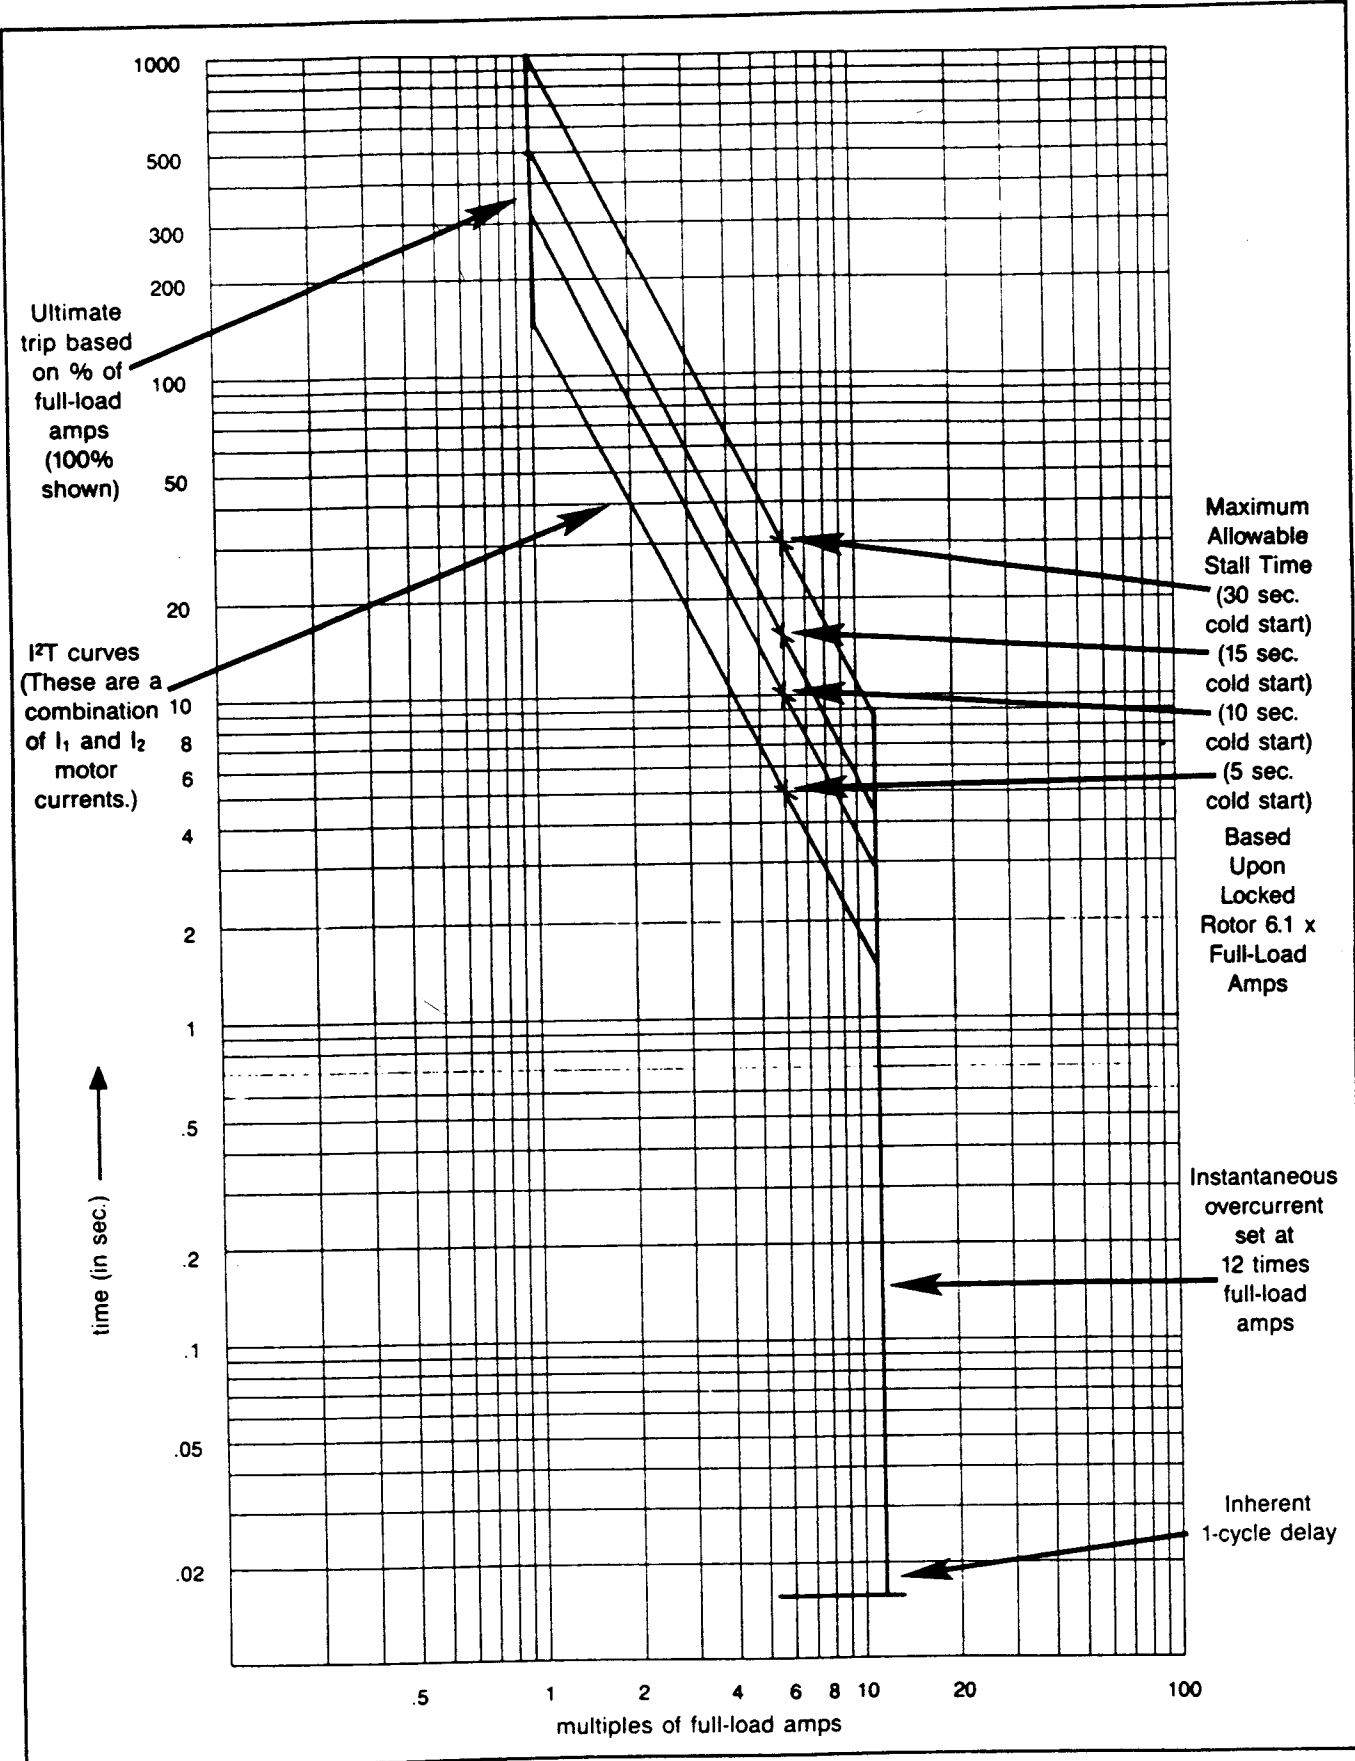

Figure 5.2 — Motor Protection Curve
values. (See Figure 5.2.) Ideally this curve is located as close as possible to the motor damage curve, thus allowing maximum utilization of the motor and, at the same time, fully protecting the motor from damage. (The motor damage curve is defined as that point in the relationship of the motor current and time where thermal damage results.) When the motor current-versus-time relationship exceeds this damage curve, a trip condition occurs, and the main contactor opens.
The typical curve shown in Figure 5.2 is the result of the factors listed in the following Paragraphs.
5.1.3.1 Instantaneous Overcurrent — The instantaneous overcurrent in Figure 5.2 is set at 12 times full-load amps. The
5.1.3.2 Allowable Locked-Rotor Current, Time — The curves shown on Figure 5.2 are based upon the maximum allowable locked-rotor current being 6.1 times full-load amps. The actual values can be greater or less as programmed into the IQ-2000. (The range may be 3 to 12 times.) All curves shown are based upon maximum allowable stall time with a cold start.
Note that the I^2T curves are a combination of the positive current and negative sequence current, with the negative sequence current weighted to reflect the additional rotor heating it causes. (Figure 5.2 shows the curves that result from maximum stall times.)